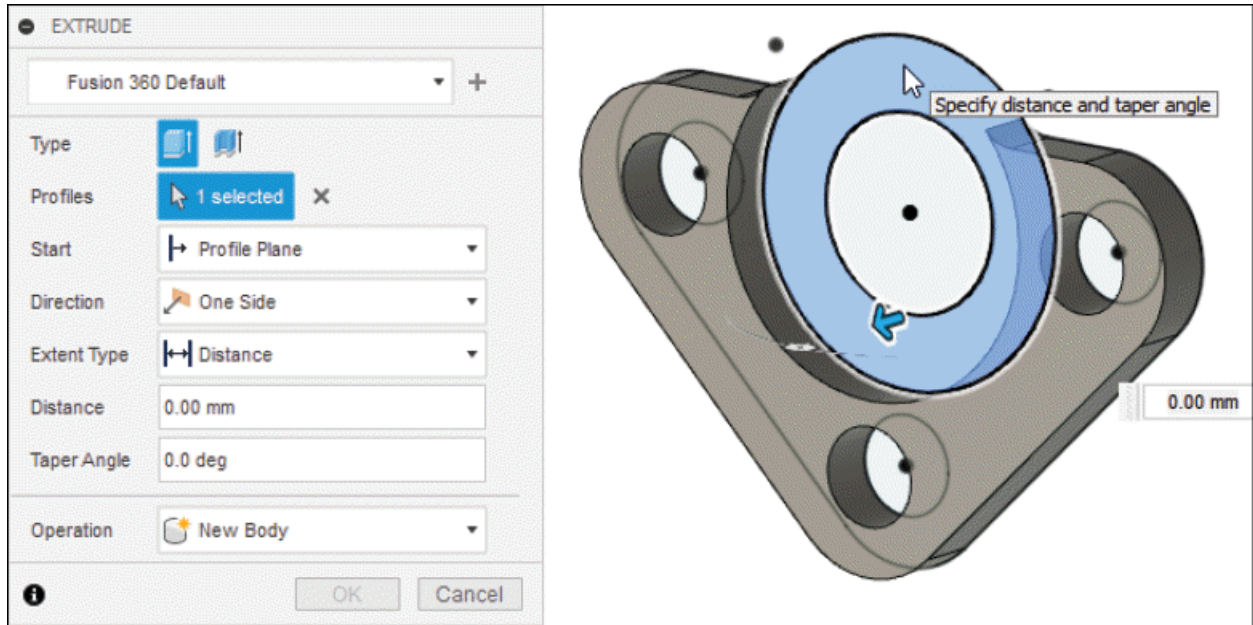

Figure-45. Extruding the second sketch
- Select the profile to extrude as shown in Figure-45.